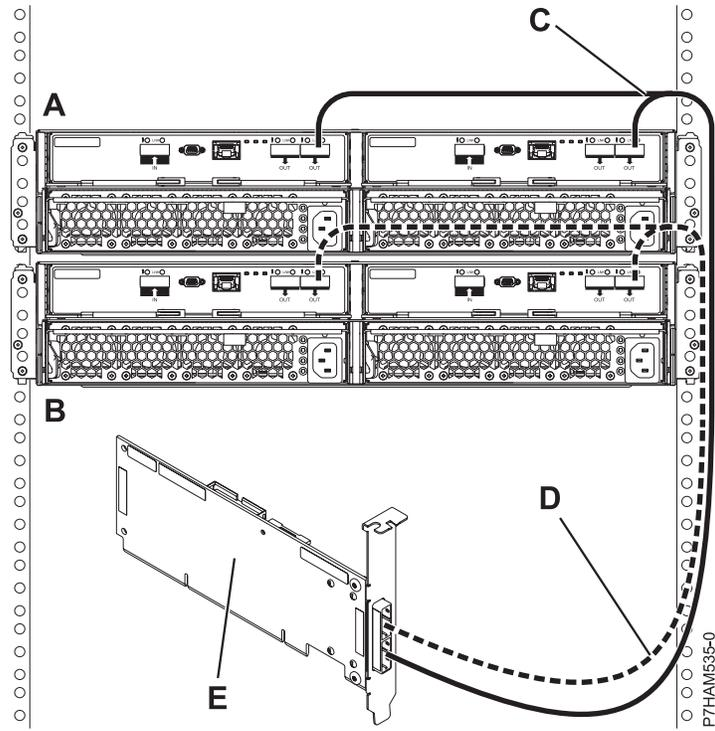

Figure 30. Mode 1 connection of two 58/87 disk drive enclosures by using YO cables to a single SAS adapter
- j. Perform the mode 1 connection of two 58/87 disk drive enclosures (**A and B**) by using YO cables (**C and D**) to a single SAS adapter (**E**) as shown in Figure 30 on page 27.